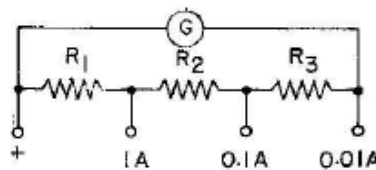

Fig. 4 The configuration of the internal resistors in a multi-range ammeter.
3. As shown in Fig 4, combine a galvanometer and three resistances R_1 , R_2 , and R_3 to become a multi-range ammeter with range 1 A, 0.1 A and 0.01 A. What is the magnitude of those resistances should be use?